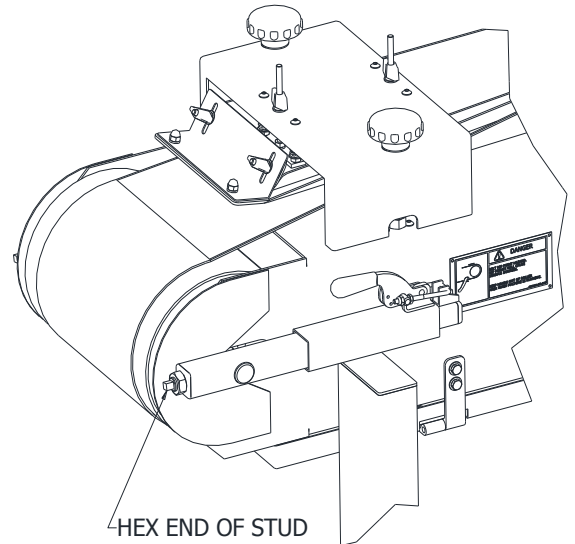

FIGURE 1
STEP 1: WITH 7/16" WRENCH, TIGHTEN OR LOOSEN HEX END OF STUD SHOWN IN FIGURE 1, PART NO.20918L & 20918R. TURN STUD COUNTER CLOCKWISE (TIGHTENS THE BELT) NO MORE THAN FIVE ROTATIONS BEFORE MAKING SAME ADJUSTMENT TO OPPOSITE SIDE. (MAKE SURE SWING PLATE IS INSTALLED PRIOR TO USING THIS ALTERNATING PATTERN TO LOOSEN BELT.)